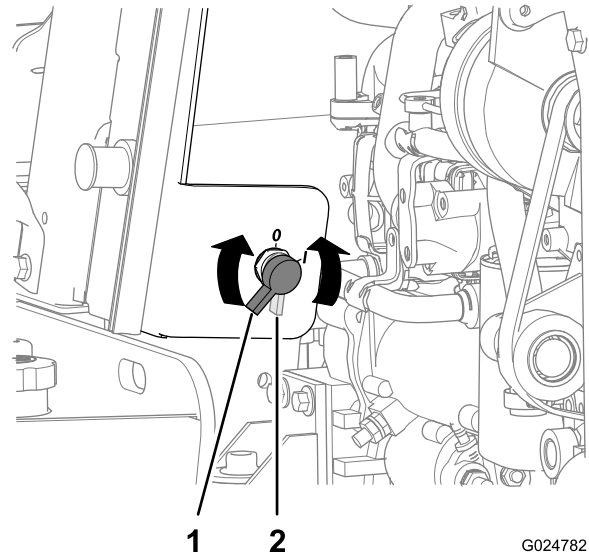

Figure 80
2. Connect the positive lead of the battery charger to the positive-battery post (Figure 80).
2. Rotate the battery-disconnect switch counterclockwise to the Off position (Figure 80).
8. Rotate the battery-disconnect switch clockwise to the On position (Figure 80).